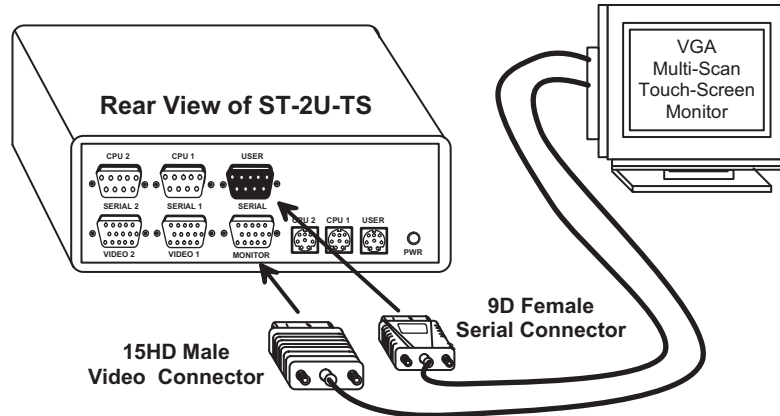

Figure 12- Connect a touch-screen monitor to ST-2U-TS
1. Connect the 15HD male connector from a VGA multi-scan monitor to the port labeled MONITOR on the rear of the NTI ST-2U-TS switch. If a touch-screen type monitor is being used, connect the 9D male serial connector from the touch-screen monitor to the port in the USER set labeled SERIAL on the rear of the NTI ST-2U-TS switch. (See Fig. 12.)